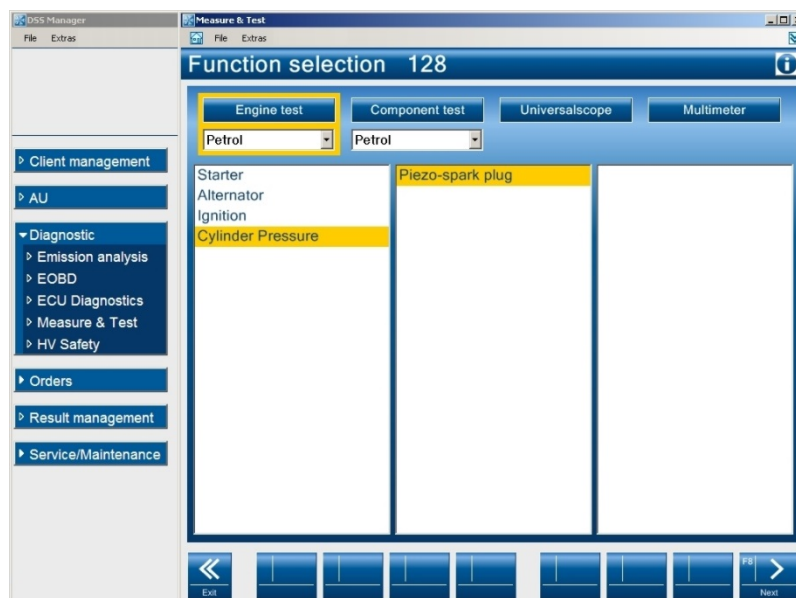

Fig. 3-6
13. Select the mode **Cylinder Pressure | Piezo-spark plug** (**Piezo- glow plug** for diesel engines), see Fig. 3-6.